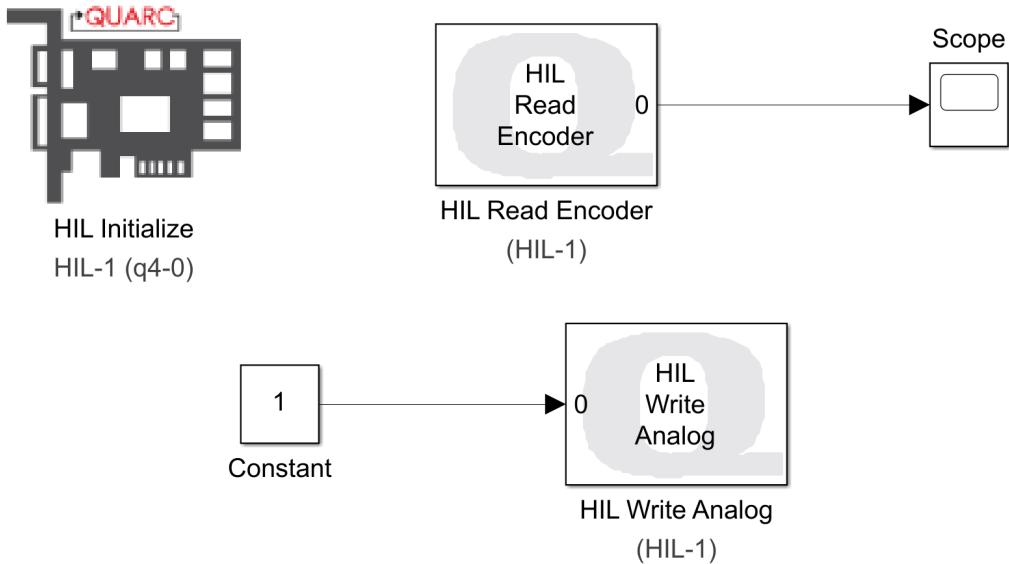

Figure 8: Simple Model
8. Connect these blocks as depicted in Figure 8. In this example, we place a simple constant output and a display for the encoder. *For the purposes of this example, do not output more than 1 volt to the cart to prevent uncontrolled motion.*